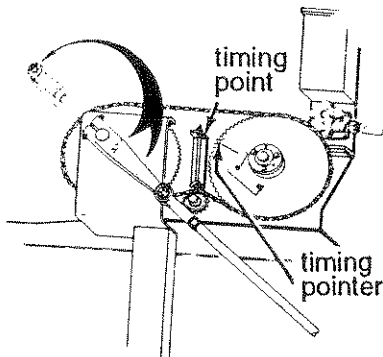

Fig. 16
3. Use a prybar to advance the knotter in order to align the timing pointer located on the sprocket with the timing mark as illustrated in **Fig. 16**.
4. Reinstall the knotter shaft drive chain located on the left side of the baler so that after properly tensioned, the timing mark will be within the flat on the end of the timing pointer, see **Fig. 16**. This is home position.